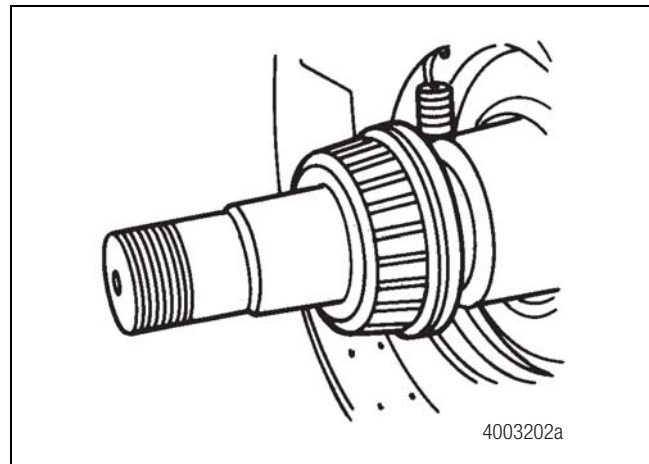

Figure 5.10
- C. Install the inner bearing cone onto the spindle. If it becomes misaligned, lightly tap the rough part of the axle tube with a hammer to create vibrations which will help realign it on the spindle and ease installation. Figure 5.10.